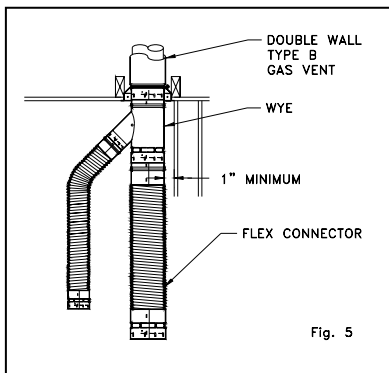

Fig. 5
1. If more than one appliance is connected to a common vent, a tee or wye may be used. (See Fig. 5, 6.)